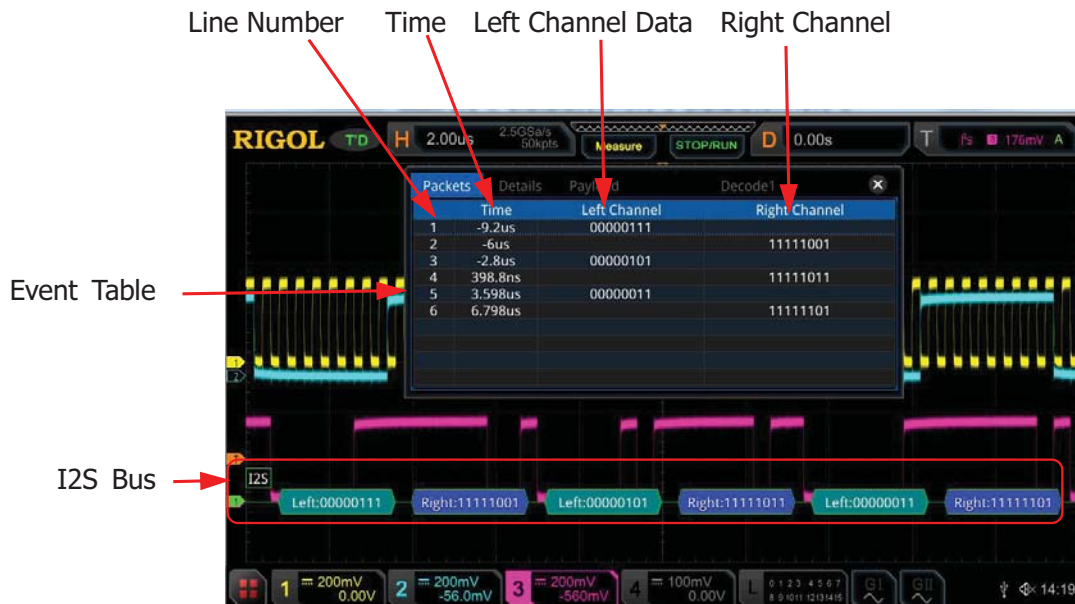

Figure 11-14 I2S Decoding Event Table
- Open or close the event table: Press **Event Table** continuously to enable or disable the event table. When you enable the event table, the following figure is displayed, as shown in Figure 11-14. You can also enable the touch screen to tap the icon  at the upper-right corner of the table to close the event table. Besides, when the operating status is "STOP", you can also rotate the multifunction knob  to select a specified line and view the corresponding decoding information.